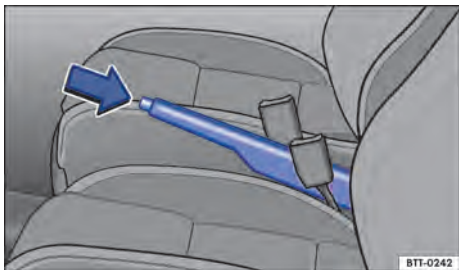

Fig. 103 Between front seats: handbrake lever.
- Press the interlock button and pull the handbrake lever upwards → Fig. 103 (arrow).
- Pull the handbrake lever slightly upwards and press the interlock button → Fig. 103 (arrow).